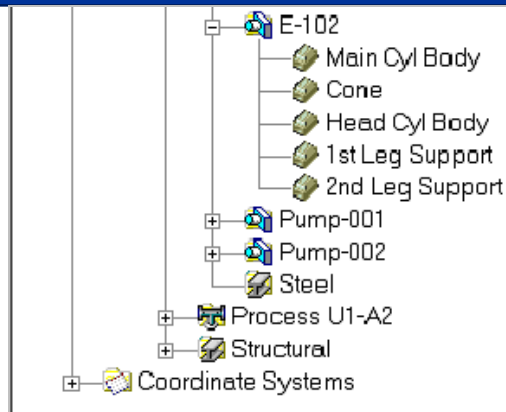

Figure 26: The Shapes Renamed
24. Rename all the shapes under the **Designed Equipment E-102**, as shown in Figure 26.